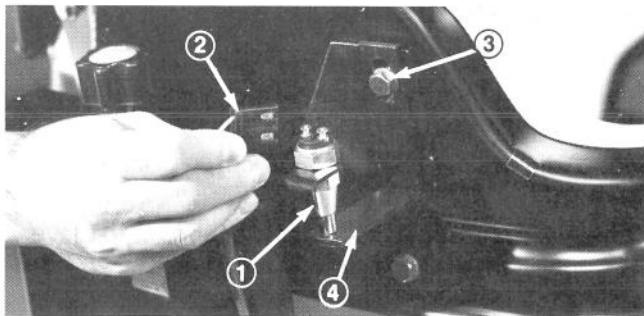
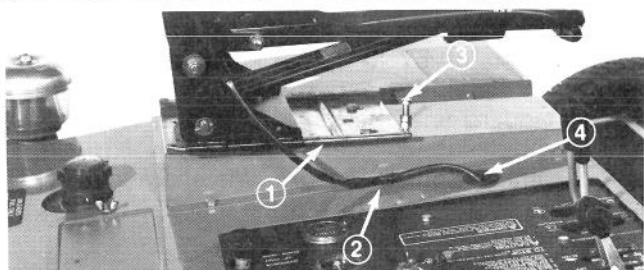
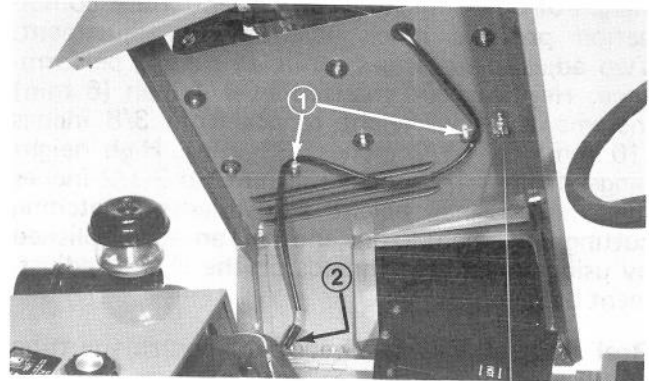

Figure 1
Figure 2
Figure 3
3. Separate slide adjustment plate from seat assembly and mount plate to seat support (Fig. 2). Insure heads of mounting capscrews face upwards.
4. Mount seat support to engine cowl, install seat on slide adjustment plate and install interlock wire connector to switch (Fig. 1). Assure mounting capscrew for switch actuating lever is tight and lever is just contacting switch when seat is unoccupied (Fig. 1). Install seat stop bolt into seat support and tighten jam nut (Fig. 2).
5. Fill connector with GRAFO 112X (skin-over) grease, TORO part no. 505-47, connect wiring harness to interlock switch and secure first harness clip with capscrew and nut through the hole in engine cowl at right side of seat base (Fig. 2).
6. Route harness through grommet in engine cowl (Fig. 2), unlatch and raise cowl and secure harness to underside of engine cowl with remaining two (2) wire harness clips (Fig. 3).
7. Fill the wire connectors with GRAFO 112X (skin-over) grease, TORO Part No. 505-47 and connect the seat switch harness to the main wiring harness (Fig. 3). Close the cowl.